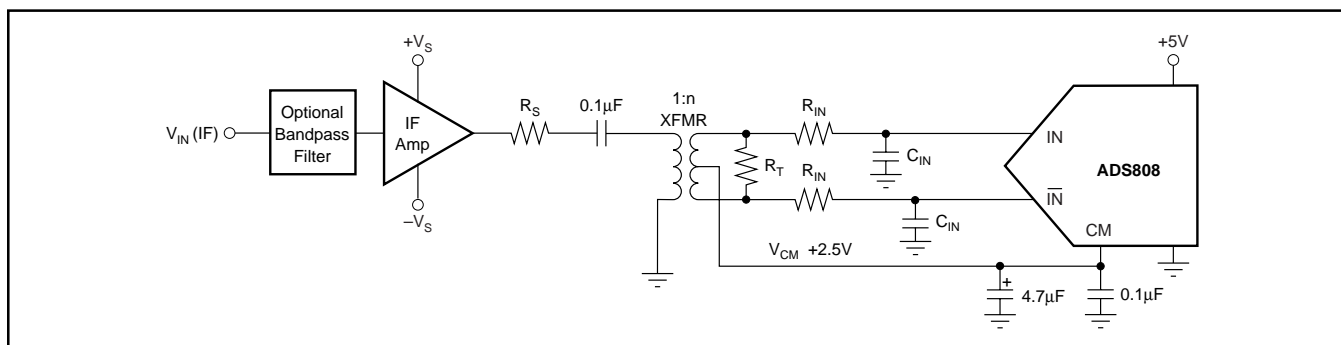

FIGURE 4. Driving the ADS808 with a Low Distortion RF Amplifier and a Transformer Suited for IF Sampling Applications.
One possible interface solution that uses a transformer is given in Figure 4. The input signal is assumed to be an Intermediate Frequency (IF) and bandpass filtered prior to the IF amplifier. Dedicated IF amplifiers, for example the RF2312 or MAR-6, are fixed-gain broadband amplifiers and feature a very high bandwidth, a low-noise figure, and a high intercept point at the expense of high quiescent currents of 50-120mA. The IF amplifier may be AC-coupled or directly connected to the primary side of the transformer.
A variety of miniature RF transformers are readily available from different manufacturers, i.e., Mini-Circuits, Coilcraft, or Trak. When choosing a selection, it is important to carefully examine the application requirements and determine the correct model, the desired impedance ratio, and frequency characteristics. Furthermore, the appropriate model must support the targeted distortion level and should not exhibit any core saturation at full-scale voltage levels. Since the transformer does not appreciably load the ladder, its center tap can be directly tied to the CM pin of the converter, as shown in Figure 4. The value of termination resistor ( $R_T$ ) should be chosen to satisfy the termination requirements of the source impedance ( $R_S$ ). It can be calculated using the equation  $R_T = n^2 \cdot R_S$  to ensure proper impedance matching.